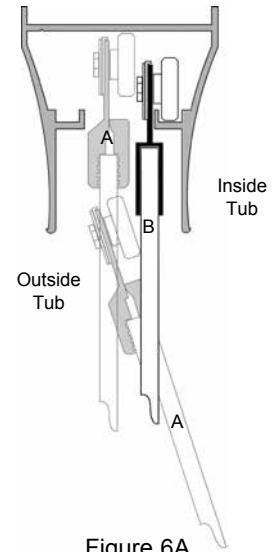

Figure 6A
- A. Hold the Inside Door Panel (#6) so that the rollers are facing away from you. Standing outside of and facing the shower enclosure, lift the Inside Door Panel (#6) up and over the Bottom Track/Curb (#2) and then lift the Top Rail (#13) up into the Header (#1) (See Figure 6A).